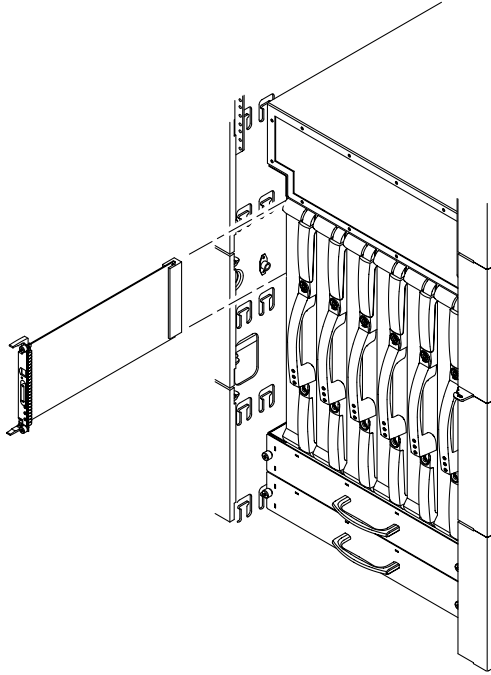
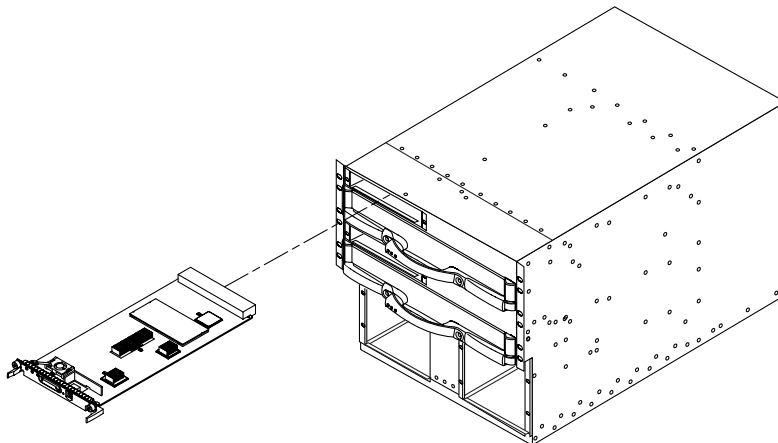

FIGURE 7-9 Removing and Replacing a System Controller Board—Sun Fire 6800 System
FIGURE 7-10 Removing and Replacing a System Controller Board—Sun Fire 3800 System
6. Slide the board out (FIGURE 7-9 and FIGURE 7-10).
FIGURE 7-9 illustrates how to install or remove the board for a Sun Fire 6800 system. This is similar also to the Sun Fire 4810/4800 systems. FIGURE 7-10 illustrates how to install or remove the board for a Sun Fire 3800 system.
- For the Sun Fire 6800/4810/4800 systems, slide the board into the card cage slot (FIGURE 7-9).